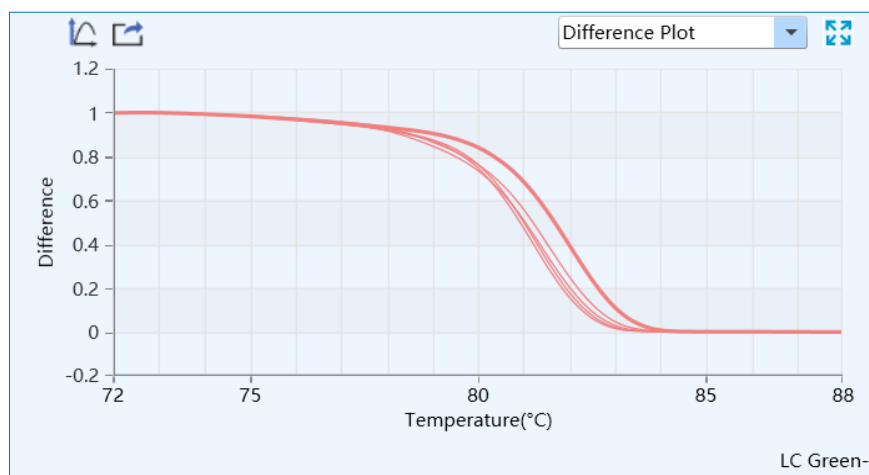

Figure D-14.3. HRM Analysis Interface - Difference Plot Functional Module
**III. Difference Plot:** display the curve after subtracting the baseline group curve, after normalization, and optionally, after temperature shift. The appearance of the curve on **Difference Plot** functional module depends on the selected baseline group, as shown in figure D-14.3. For more details, please refer to D-3.3.4.4 High Resolution Melting - High Resolution Melting Analysis Setting.